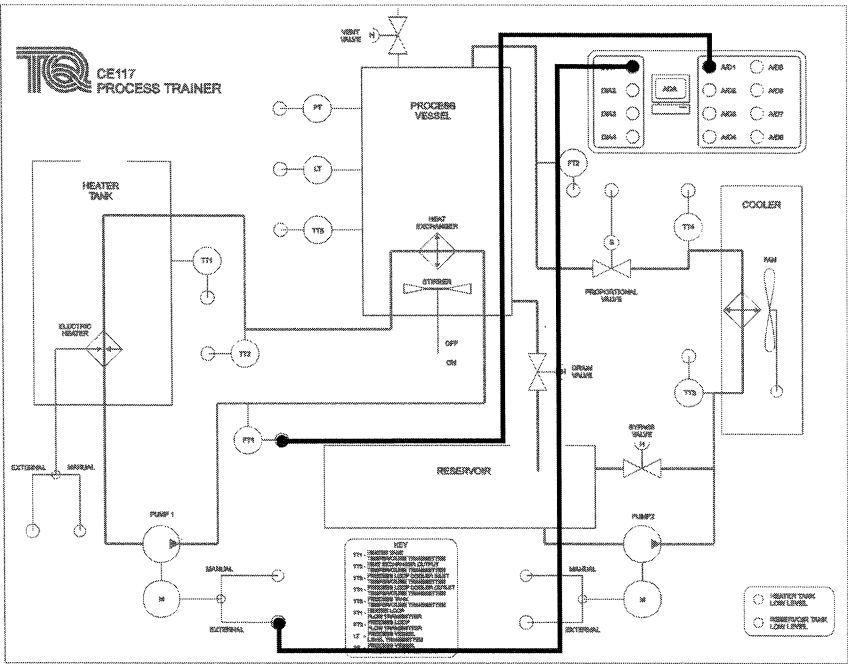

Figure 33 Connections For Experiment 1 Procedure 1
- 4) Connect the CE117 Mimic Panel as shown in Figure 33. Set Pump 1 switch to 'External'. Analogue signals will pass from the ADA section to Pump 1 and from flow transmitter FT1. The software will display and record the flow through the heater loop.